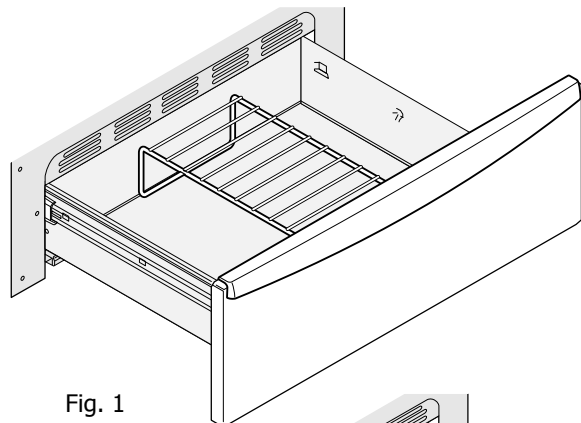

Fig. 1
- In the **upright position** (See Fig. 1) to allow low profile food items to be placed both under and on top of the rack (for example, rolls or biscuits on top of rack and a casserole dish underneath).